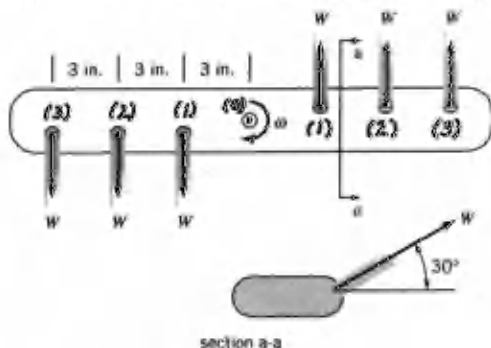

FIGURE P12.1R
12.1R (Angular momentum) Water is supplied to a dishwasher through the manifold shown in Fig. P12.1R. Determine the rotational speed of the manifold if bearing friction and air resistance are neglected. The total flowrate of 2.3 gpm is divided evenly among the six outlets, each of which produces a 5/16-in.-diameter stream.